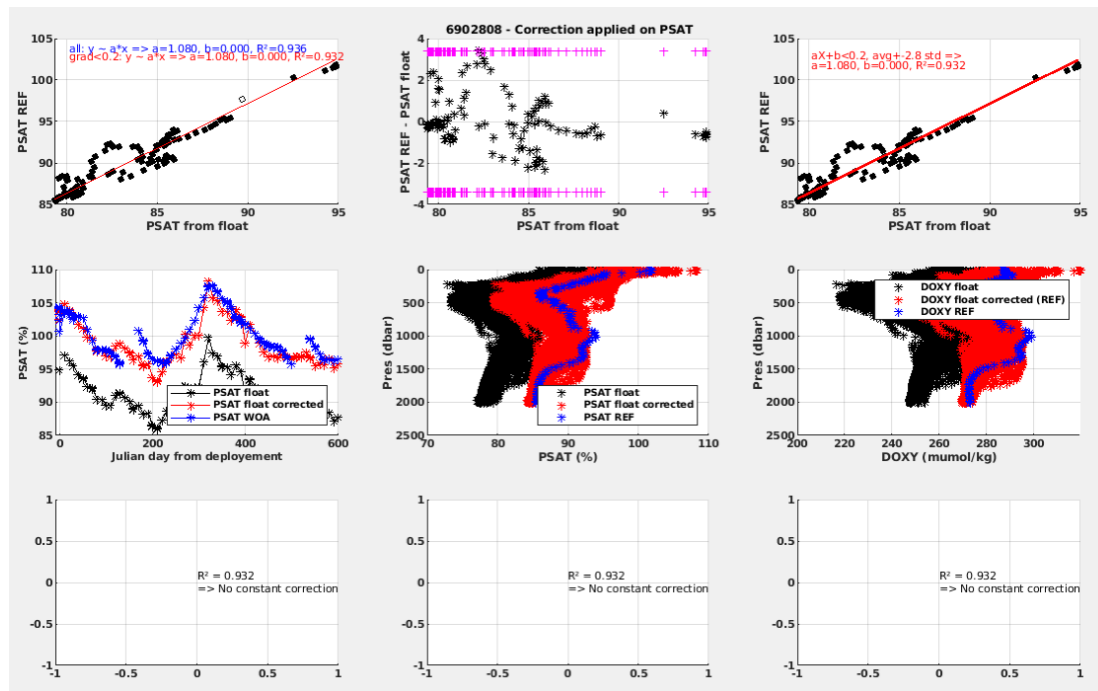

Figure 11.1e. The same as Fig. 11.1d but when the REF method was selected (saved as “DOXY_PLOT_corr..”).
- Figure 11.1e is an example of the figure displayed when the REF method was chosen for the correction. The plot is organized exactly the same way as in the plots of the WOA correction. The difference is that the first line is less dense because the correction has been computed with a single in-situ reference profile, instead of a set of WOA profiles. Another difference is in the time-series on the left of the second line; even if the selected method is the REF one, the time evolution is shown in respect to the WOA data, since the REF profile provide a single point.
In the examples of Fig. 11.1d and Fig. 11.1e the estimated R2 was above the threshold indicated in the configuration file, so, no constant correction should be applied. However, when the R2 is below the threshold indicated in the configuration file, a constant correction is proposed to apply instead of the linear regression correction (see 3.2.3). When R2 is below the threshold indicated in the configuration file another question dialogue box emerges (Fig. 11.1f).